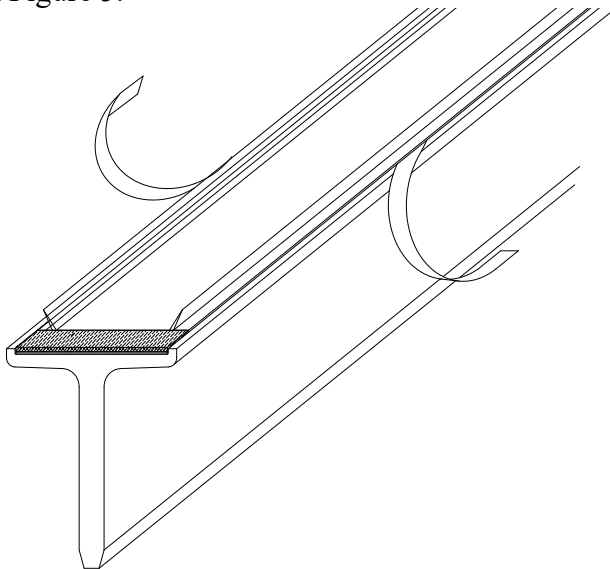

Figure 5
3. Apply the Silvis Seal to the "T" by removing approximately 2 ft. of backing tape. Starting at the end blocker, apply the Seal to the recessed channel in the "T" being careful to orient the Seal in line with the "T". Lay the rest of the Seal in the recessed channel. Carefully pull the remaining backing tape from the "Seal" and using light pressure adhere it to the aluminum as shown in Figure 5.